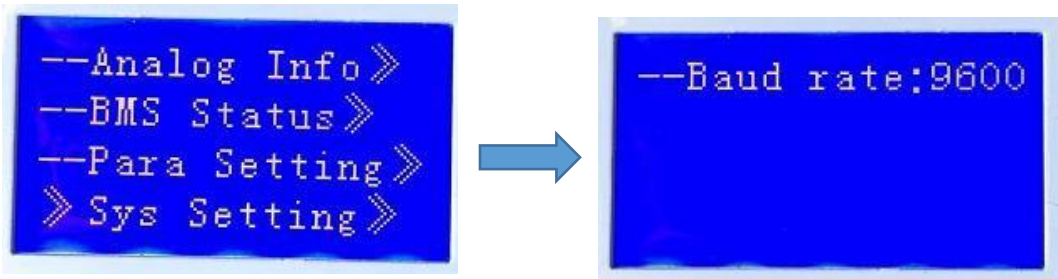

Figure 10
4.4 Sys Setting, Baud Rate Figure 10 shows